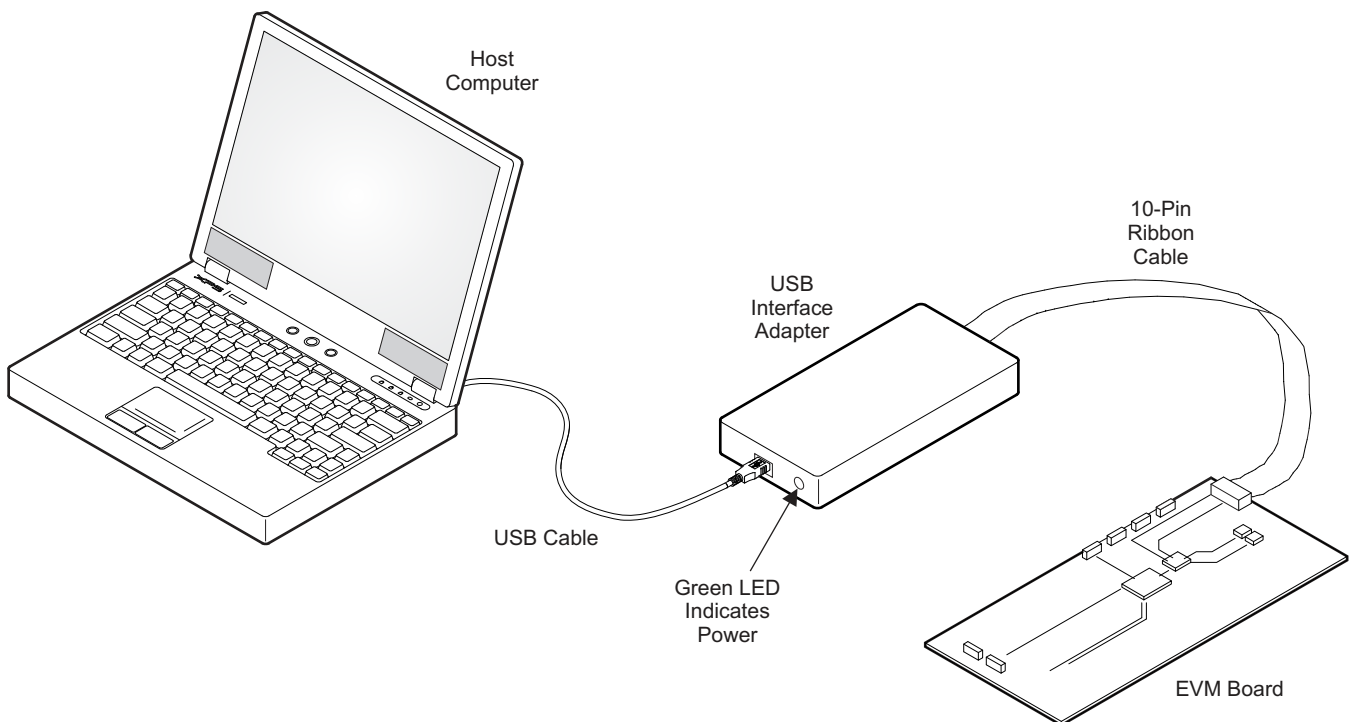

Figure 6. USB Interface Adapter Quick Connection Diagram
- Connect one end of the USB-TO-GPIO box to the PC using the USB cable and the other end to P1 of the TPS65235 using the supplied 10-pin ribbon cable per Figure 6. The connectors on the ribbon cable are keyed to prevent incorrect installation.